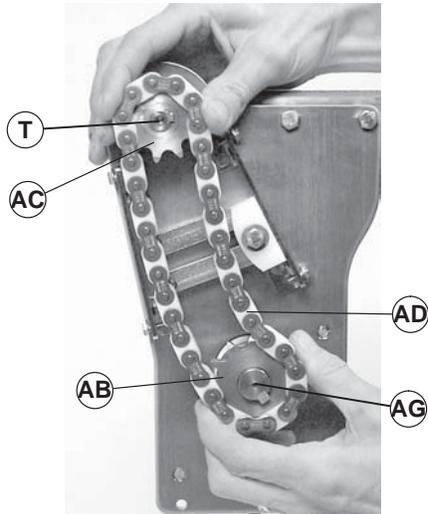

Figure 13
- Install timing chain (Figure 13, item AD) over sprockets (AB and AC). Install timing chain and sprockets on conveyor input shaft (T) and gearmotor output shaft (AG). Do not tighten sprocket set screws.